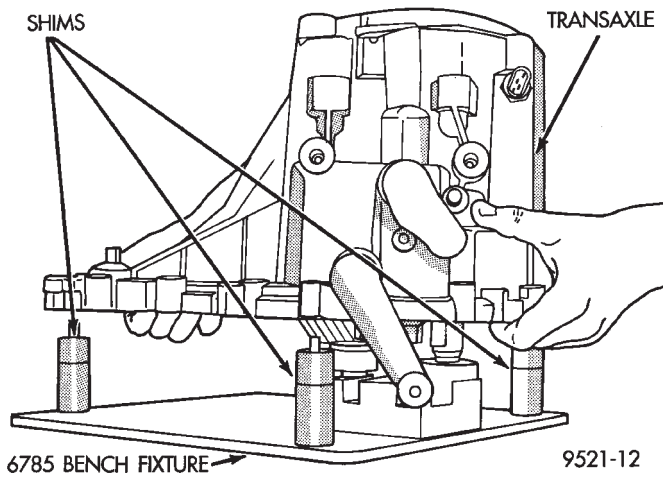

Fig. 53 Bench Fixture
(13) Using bench fixture and shims provided (Miller tools # 6785, 6785-1, and 6785-2), turn transaxle over. Install transaxle onto bench fixture (Fig. 53).